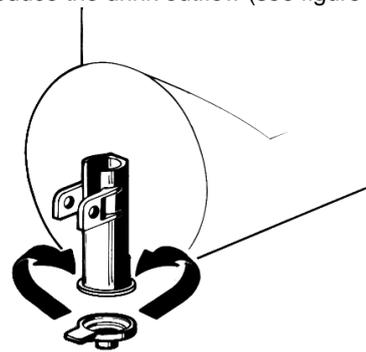

figure 4
- 10 -Restrictor cap: when the unit is used in Soft Drink mode it is advisable to install the restrictor cap on the faucet outlet in order to reduce the drink outflow (see figure 4).